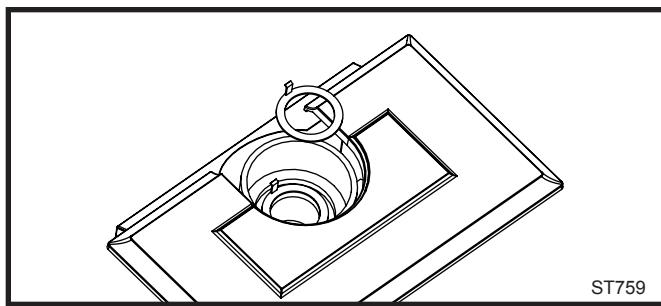

Fig. 16 Install the restrictor plate only if required for the venting configuration. Refer to Page 8.
1. **Install the Restrictor Plate.** Consult the 'Vent Run Specifications' on Page 8 to determine whether the restrictor plate is needed. If so, put the restrictor plate in place within the inner flue collar as shown in Figure 16.
- 1. Install the Restrictor Plate.** Consult the 'Vent Run Specifications' on Page 8 to determine whether the restrictor plate is needed. If so, put the restrictor plate in place within the inner flue collar. (Fig. 16)